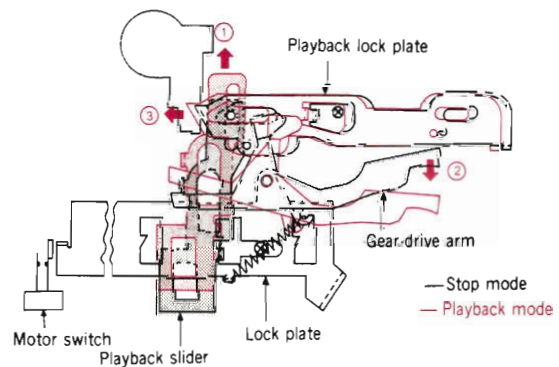

Fig. 1
1) When the playback button is pressed, the playback slider shown in Fig. 1 slides in the direction of the arrow ①. After this, the gear-drive arm and the playback lock plate slide in the directions of arrows ② and ③ and lock in the positions shown in color, by means of the playback lock plate.